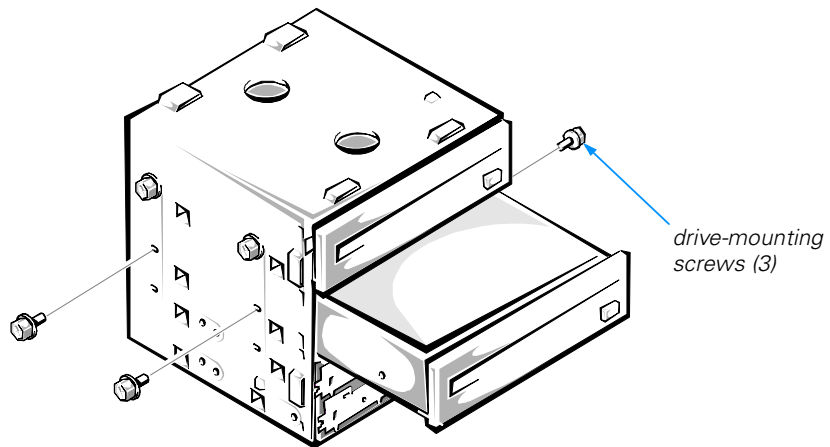

Figure 3-7. Installing a 5.25-Inch Drive
4. Slide the drive into its bay, and secure it to the drive cage with two screws on the left and one screw on the right (see Figure 3-7).